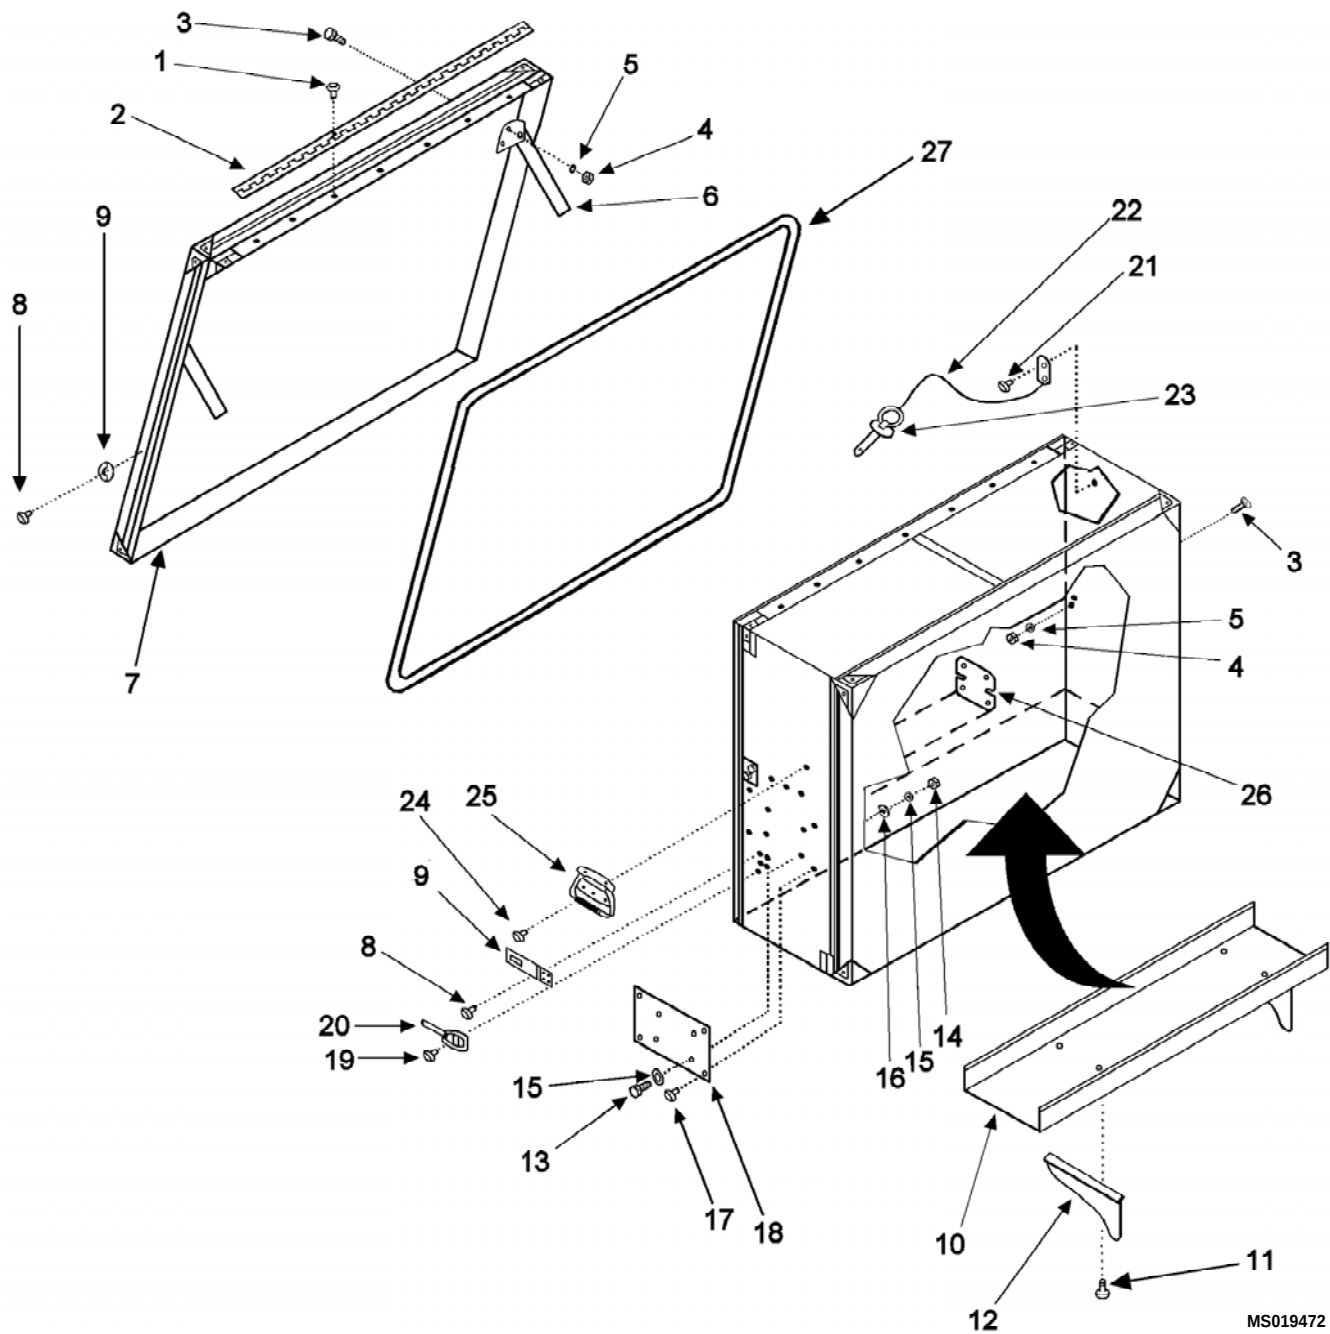

Figure 1. Left Side Box Assembly
1. Remove 14 rivets (1) and hinge (2). (Figure 1)
2. Remove 8 bolts (3), 8 nuts (4), 8 lock washers (5), 2 door stays (6) and door (7).
3. Remove 7 rivets (8) and hasp and staple (9).
4. Remove two shelves (10) from box. Remove 8 rivets (11) and 4 shelf brackets (12) from shelves (10).
5. Remove 4 bolts (13), 4 nuts (14), 8 lock washers (15), 4 flat washers (16), 4 rivets (17) and fuel can plate (18).
6. Remove 14 rivets (19) and 2 latches (20).
7. Remove rivet (21), lanyard (22) and locking pin (23).
8. Remove 10 rivets (24) and 2 handles (25), with 2 backing plates (26).
9. Remove door seal (27).